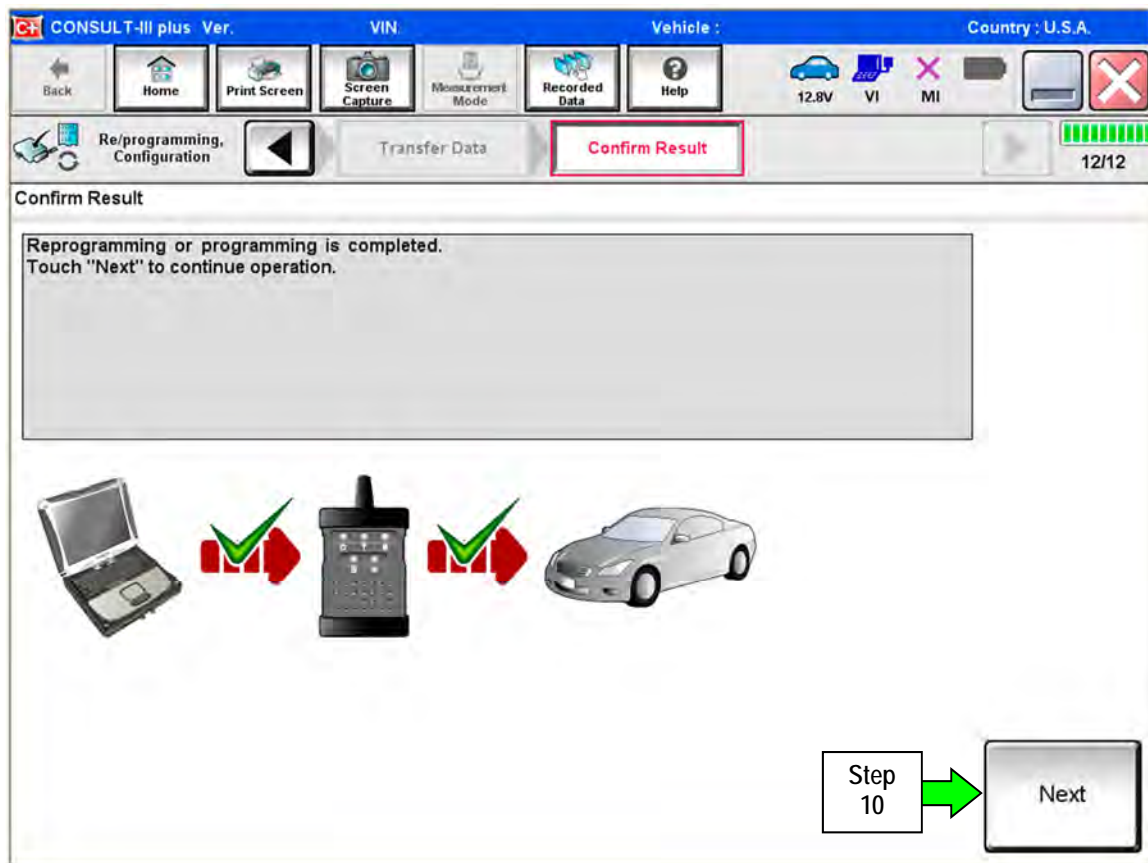

Figure 5
8. When the screen in Figure 5 displays, reprogramming is complete.
NOTE: If the screen in Figure 5 does not display (reprogramming does not complete), refer to the information on page 7.